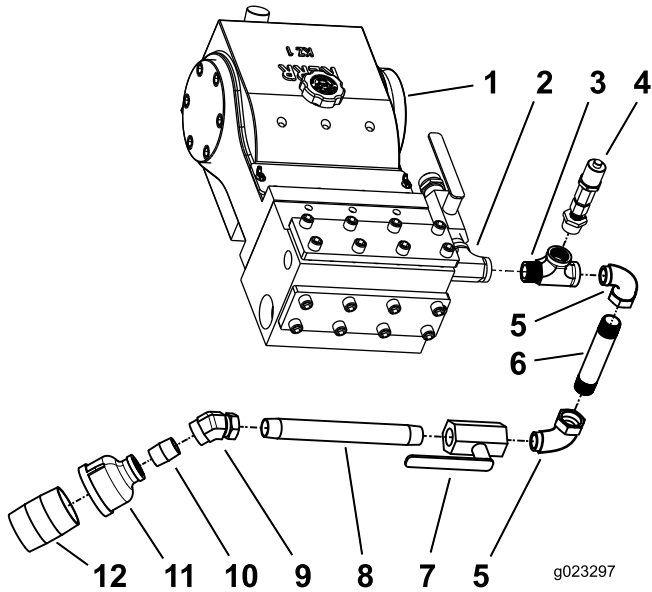

Figure 2
2. Assemble the adapter parts with pipe putty or pipe-sealant tape. Refer to Figure 2.